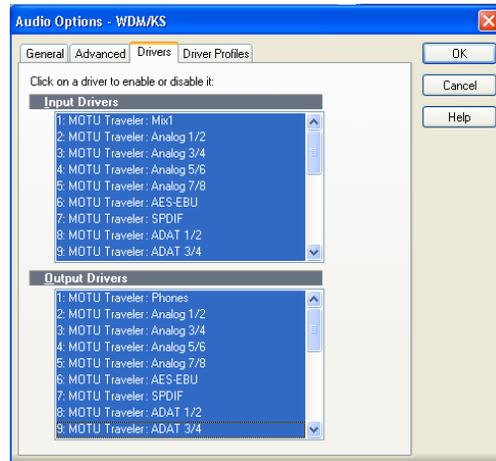

Figure 8-2: Activating the MOTU FireWire Audio WDM driver in SONAR by highlighting Traveler inputs and outputs.
- 3 Highlight the Traveler inputs and outputs that you wish to use and unhighlight the ones you don't as shown in Figure 8-2.
Once you've enabled the Traveler inputs and outputs in the Drivers tab of the Audio Options window (Figure 8-2 on page 61), Traveler audio inputs and outputs will appear in Sonar's input/output menus, and you can set them up and use them as any standard audio input and output. If you don't see the optical inputs and/or outputs, check the MOTU FireWire Audio Console to make sure they are turned on and set to the format you need. If you don't plan to use the optical input or output, turn it off to conserve computer bandwidth.